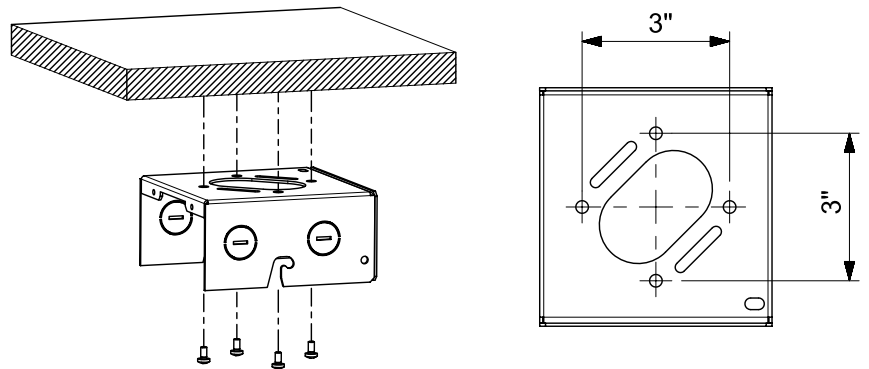

Figure 10
4. Secure the junction box to mounting surface by customer supplied anchor screws, toggle bolts or suitable fasteners. The two ceiling opening distance is 3". See Figure 10.